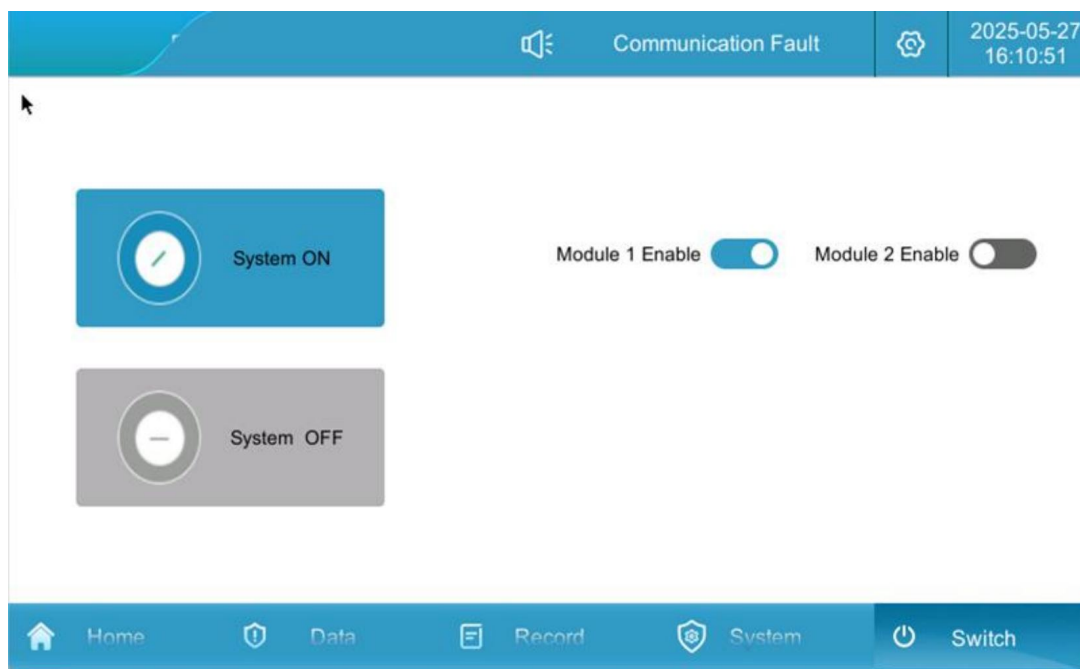

Figure 5.2-2 Switching Interface
3. In the touch screen “switch” page to enable all the modules (you can also turn on some of the modules according to the actual need), click on the “System ON” , the normal turn on time of about 30 seconds, as shown in Figure 5.2-2.
4. Converter shutdown: When the converter is in operation, click "System OFF", as in Figure 5.2-2.